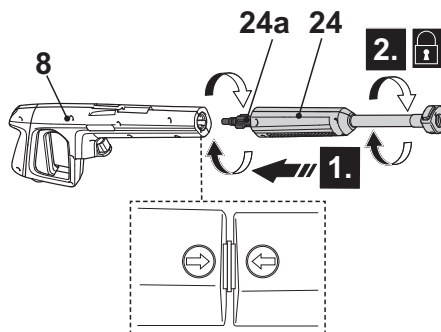

Fig. 12
1. Always attach the extension lance (24) when using the patio brush.
2. Align and insert the tongues (24a) of the extension lance (24) into the grooves of the spray gun (8) connection port (Fig. 12, step 1).
3. Securely fit the extension lance (24) by turning it clockwise to lock it in place (step 2). Ensure the arrow on the spray gun aligns with the arrow on the extension lance.